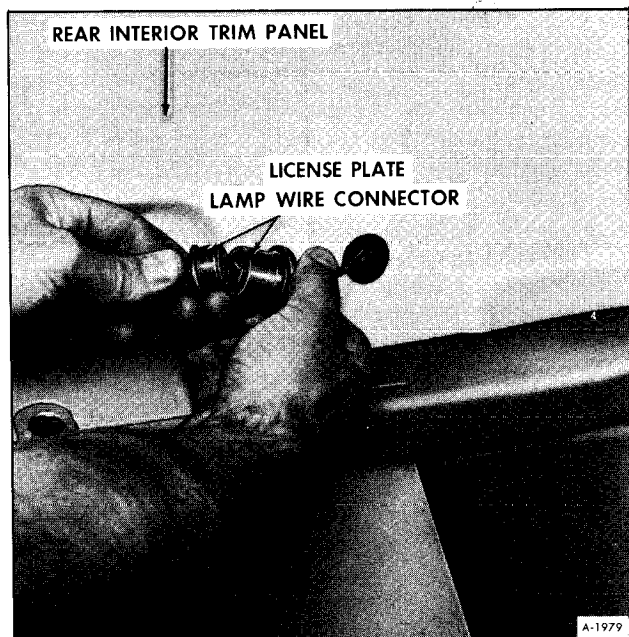

Figure 29-Disconnecting Wire to License Plate Lamp
1. Disconnect wires for license plate light at lower left-hand inside corner as shown in Figure 29.